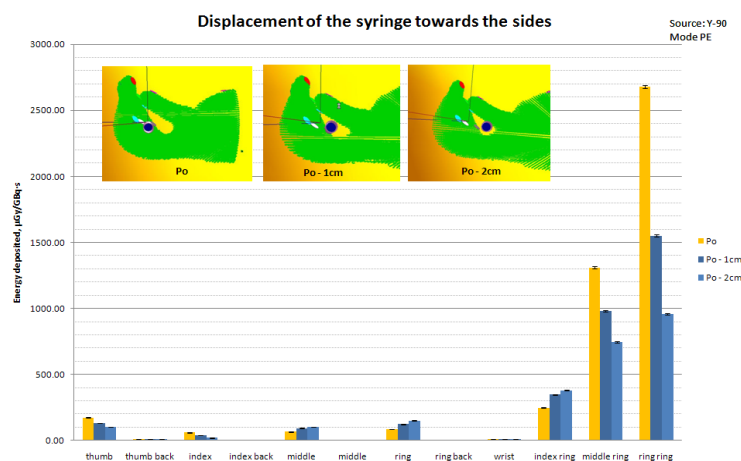

Figure 10: Example of scenario I2N. Test 5. Source Y-90
- Do one histogram for each radionuclide. Same template as previous tests. See example in Figure 10